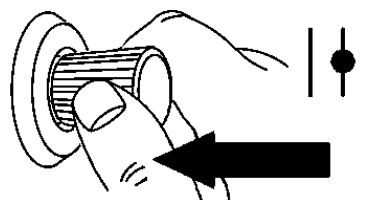

Figure 11. Choke Knob (Open Position)
5. Push the choke knob inward slowly to the OPEN position (Figure 11) before operating the power buggy. Before the buggy is placed into operation, run the engine for several minutes. Check for fuel leaks, and noises that would associate with a loose guard or cover.
4. If the engine has started, slowly push the choke lever (Figure 11) inward to the RUN position. If the engine has not started, repeat steps 1 through 3.